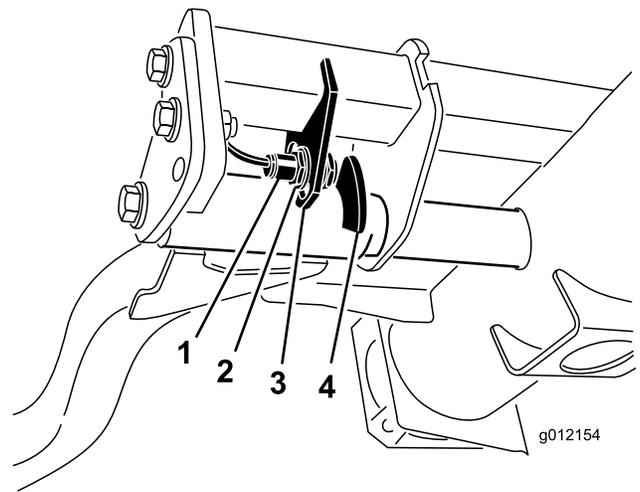

Figure 32
2. The lift-arm switch is located underneath the hydraulic tank behind the front, right lift arm (Figure 32).
3. Loosen the switch-mounting screws and move the switch down to increase the lift-arm turnaround height or move the switch up to decrease the lift-arm turnaround height (Figure 32).